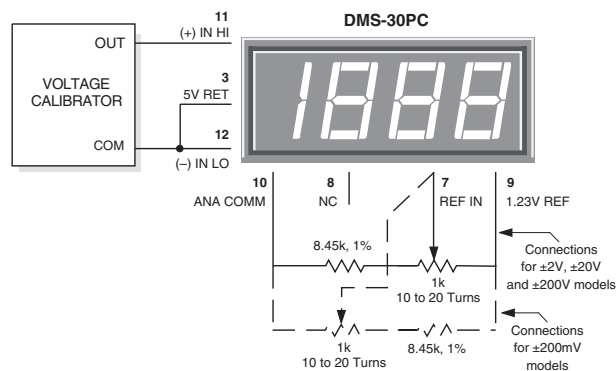

Figure 10. External Gain Adjustment
6. Gain Adjust: There is a gain-adjust potentiometer on the back of each meter. It has approximately ± 50 counts ($\pm 2.5\%$) of adjustment range. Since these devices essentially have no zero/offset errors, a gain adjustment is effectively an overall accuracy adjustment. Though they may be performed at any point (except zero), accuracy adjustments are most effective when performed with higher level input signals. The circuit shown in Figure 10 provides $\pm 10\%$ range of adjustment.
8. External Gain Adjustment: Connect REFERENCE OUT (pin 8) to REFERENCE IN (pin 7) for normal, factory calibrated, operation. Use the +1.23V REFERENCE OUT (pin 9) for applications needing external gain adjustment. Figure 10 shows the wiring configuration for each model. Calibration is performed with a precise, near-full-scale, input voltage.